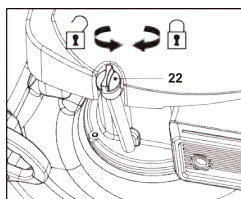

Fig. 8
1. Unscrew and remove the oil tank cap (22) (Fig. 8).